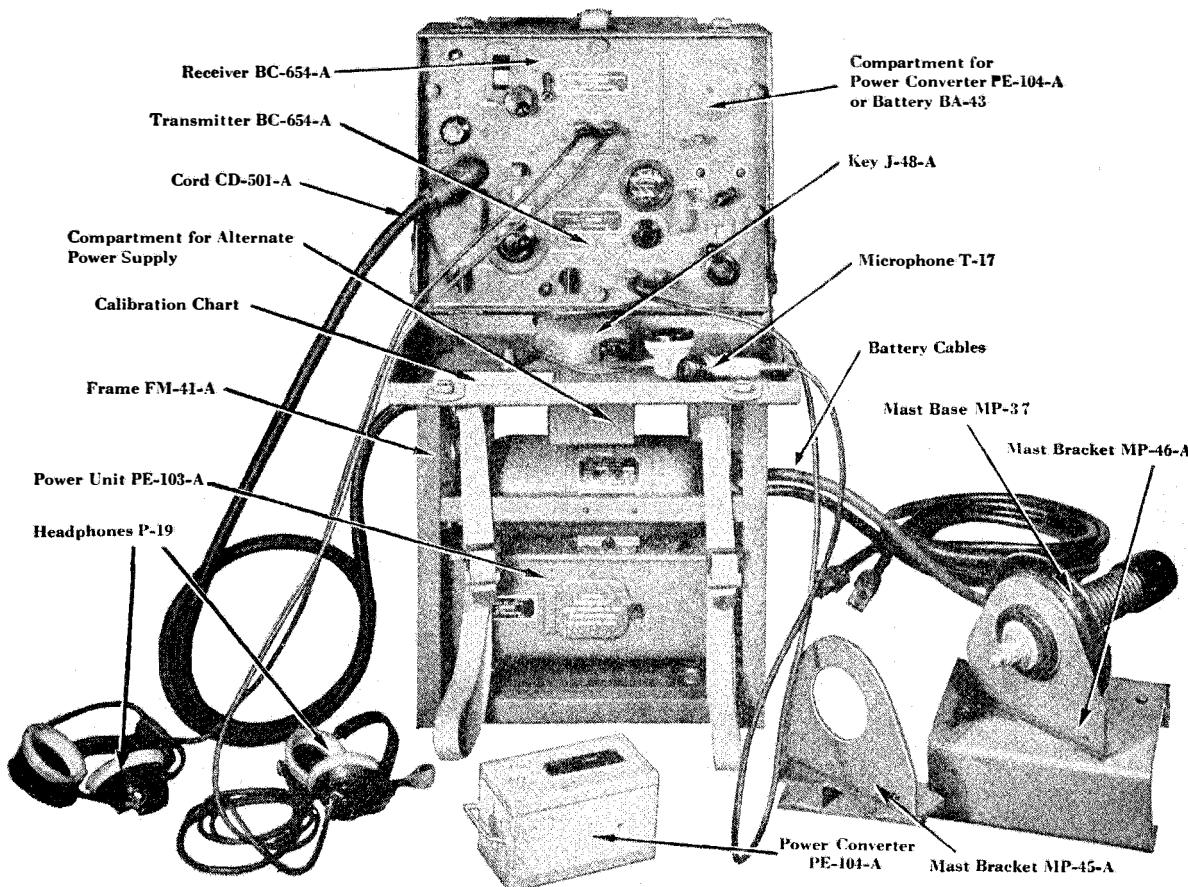

FIG. 2. RADIO SET SCR-284-A—VEHICULAR INSTALLATION COMPONENTS
a. Radio Receiver and Transmitter BC-654-A-(FIG. 2)
b. Frame FM-41-A:— (FIG. 2)
c. Battery BA-43:— (FIG. 2)
d. Power Converter PE-104-A:— (FIG. 2)
- (1) The 25-ft. rod antenna consists of eight Mast Sections, MS-49 to MS-56 inclusive.
- (2) The 15-ft. rod antenna consists of five Mast Sections, MS-49 to MS-53 inclusive.
h. Antenna Mounting:— (FIG. 2)